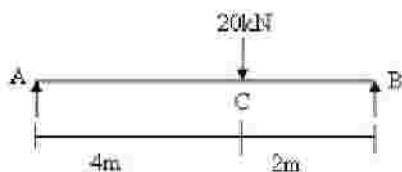

Fig. 3
- Q.3** (a) A simply supported beam is loaded as shown in the fig.3. Determine the deflection under the point load by conjugate beam method. **07**